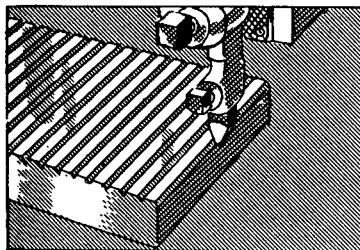

FIG. 487
1. Start the machine and move the table until the tool scrapes the edge of the work. The tool is now set in the same position it occupied when the first cut was taken (Fig. 487).